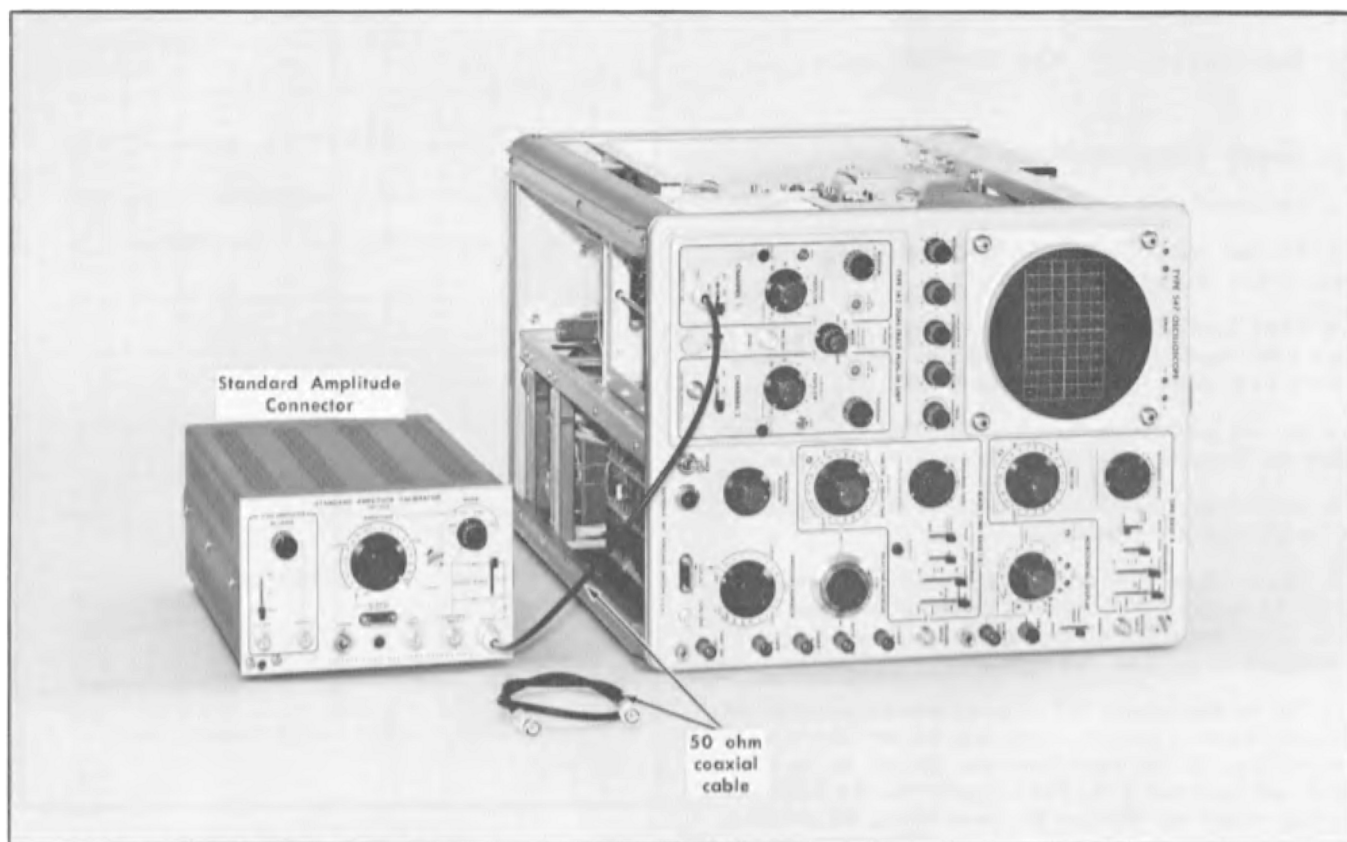

Fig. 7-8. Initial equipment setup for steps 17 and 18.
a. Equipment setup is shown in Fig. 7-8